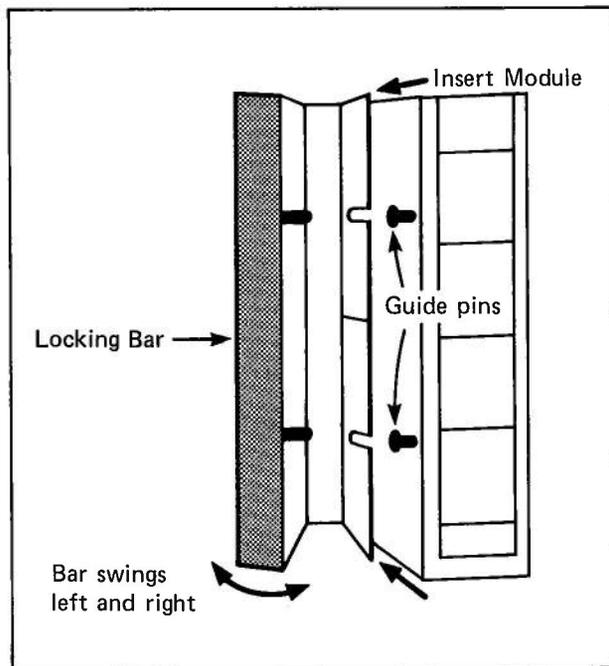

Figure 5 – Guide Slots
Step 3 – Move the Locking Bar on the I/O Rack's built-in terminal block to the left in order to uncover the guide slots on the block. (See Figure 5.)